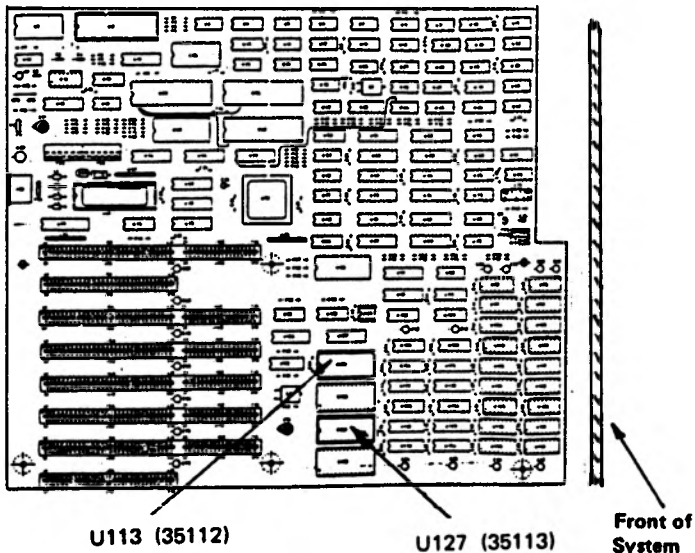

Figure 8
9. To ensure the correct operation of this drive it may be necessary to change the firmware in the PC. To check if this is necessary on your PC, look at the labels on the two integrated circuits (ICs) shown in Figure 8. If these labels have numbers lower than 35112 and 35113 then the ICs must be replaced with those supplied in this kit
The IC with the number 35112 must be installed in the socket marked U113 on the board. The IC with the number 35113 must be installed into the socket U127, see Figure 8.